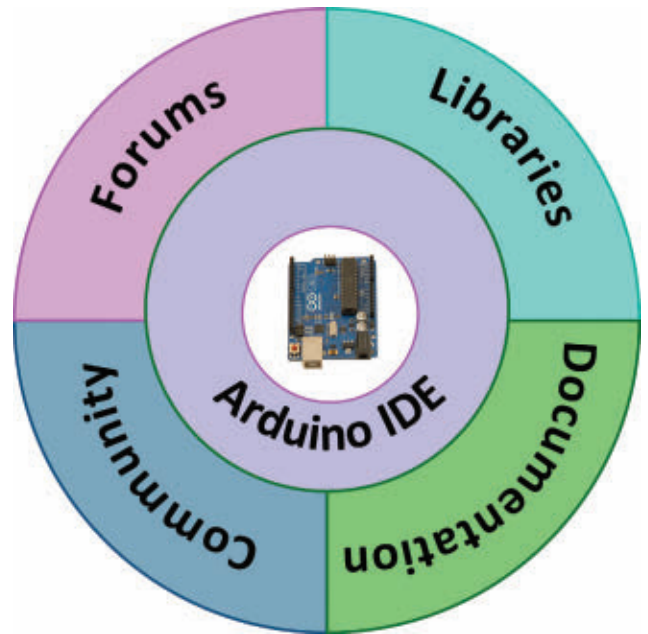

FIGURE 1. The Arduino ecosystem.
■ **FIGURE 1. Digital circuit using a 4017 decade counter.**
parts cost over \$20 and would have required a printed circuit board (PCB) to be designed and stuffed with parts, plus a 12 volt power supply to operate the relays. Again, the parts cost was too high (**Figure 1**).
The Arduino is often referred to as an ecosystem. It is similar to a natural ecosystem in the way in which the various elements inter-relate and depend on one another. The core elements in the ecosystem are the physical boards and the software integrated development environment (the IDE and the Arduino libraries), which are then surrounded by the documentation, the support structures, and the larger Arduino community (**Figure 1**).